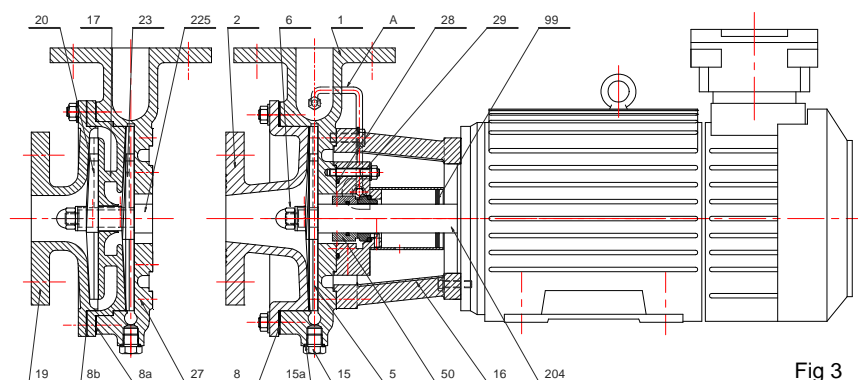

Fig 3
- The 109-212-215-315 pumps can be mounted either in single or multicell, according to fig 3 or 6 if sleeve shaft